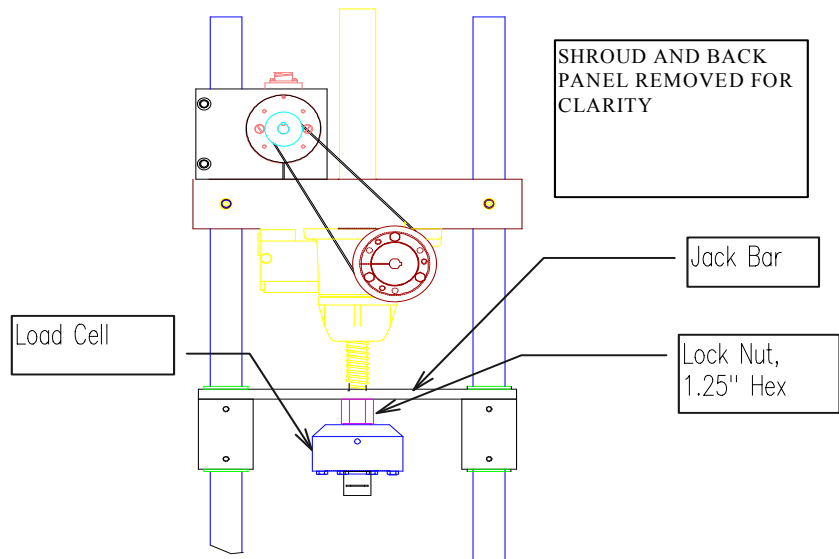

Figure 1
- When the lock nut (see Figure 1) is fully in view and past the back panel edge, depress the reset key.
- Install the load cell by screwing it fully on to the lock nut as shown in Figure 1. Hand tighten (snug tight) the load cell onto the lock nut. The cable as it exits the load cell, should be pointed at the 10:00 position as viewed from the top of the instrument. The strain relief of the load cell cable as it exits the load cell housing must clear the back panel of the LMR. If it does not contact Dynisco for assistance.
Reference Figure 1 shown below